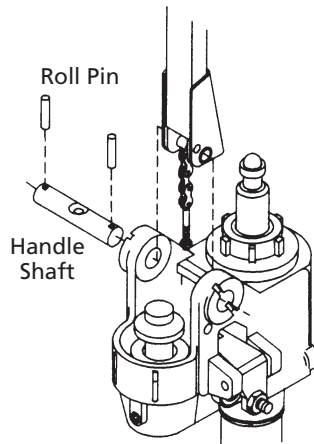

Figure 2 – Handle Assembly
1. Remove roll pin, and handle shaft from pump body (See Figure 2).